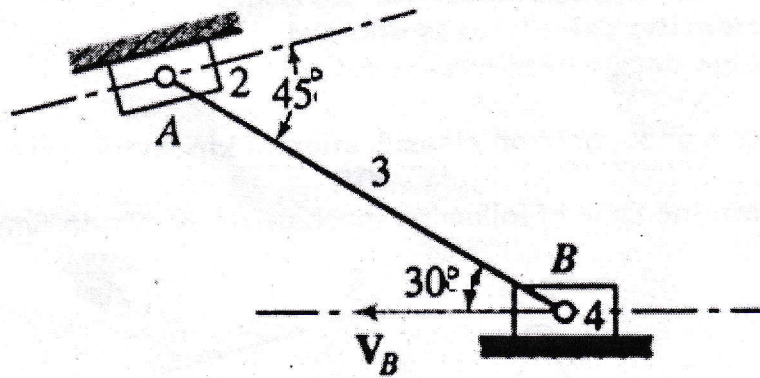

Figure 3
- Q.3) a) The velocity of point B on the linkage illustrated in Figure 3 is **1 m/s**, the length of AB link is **1 m**. Find the velocity of point A and the angular velocity of link 3 using relative polygon method. [6]